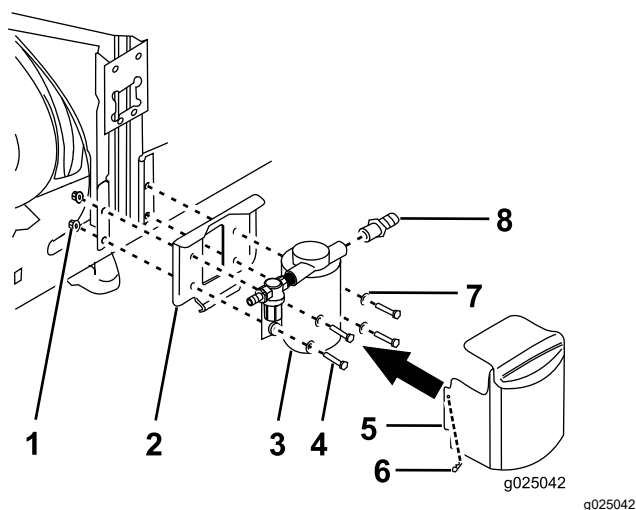

Figure 23
3. Secure the rinse pump and rinse pump mounting bracket to the valve mount (Figure 23) with the 4 bolts (1/4 x 1-3/4 inch), 4 washers (1/4 inch), and 4 serrated-flange nuts (1/4 inch).